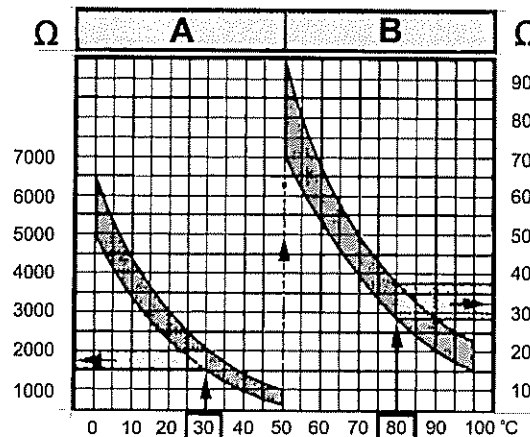

Fig 6 Setpoint values
11.15 Referring to the setpoint diagram (see Fig 6), area A shows the resistance values for the temperature range 0 through 50 °C; area B shows the resistance values for the temperature range 50 through 100 °C. For example, a read-out of 30 °C corresponds to a resistance of 1500 to 2000 Ω. Whilst a readout of 80 °C corresponds to a resistance of 275 to 375 Ω.